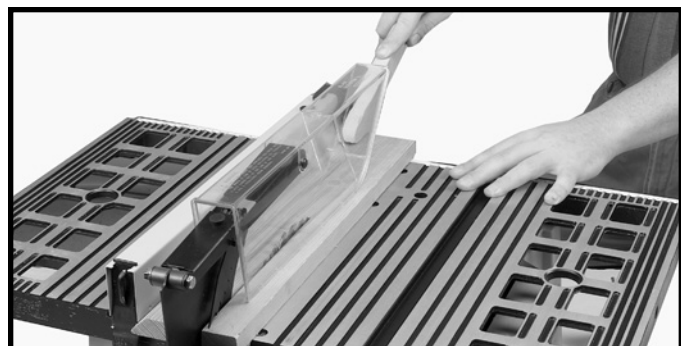

Fig. 41
3. If the ripped work is less than 6 inches wide, a push stick should always be used to complete the feed, as shown in Fig. 41. The push stick can easily be made from scrap material as explained in the section **“CONSTRUCTING A PUSH STICK.”**